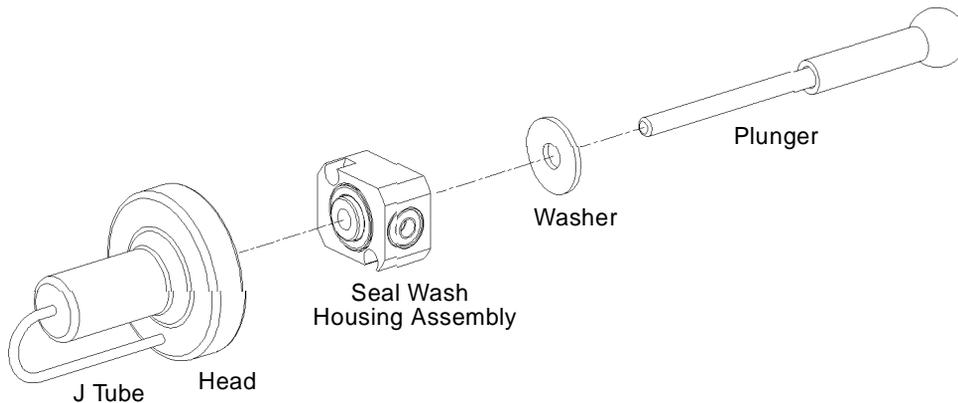

Figure 7-5 Plunger, Seal Wash, and Head
5. Remove the head, seal wash assembly, and plunger as one unit (see Figure 7-5).
7. Follow the directions on the screen to reinsert the head, seal wash housing, washer, and plunger assemblies. To avoid damaging the tube seals and to properly align the seal wash tubes with the seal wash housing, refer to steps **a** through **d** below. Also, make sure that the head alignment pin is properly oriented and that the “J” tube is facing down (see Figure 7-5).
7. Reinstall the seal wash housing assembly washer (see Figure 7-5).
8. Slide the seal wash housing with washer onto the plunger, then insert the assembly onto the head (see Figure 7-5).
9. Follow the directions in the Head Removal and Replacement screen to reinsert the head, seal wash assembly, and plunger. To avoid damaging the tube seals and to properly align the seal wash tubes with the seal wash housing, refer to steps **a** through **d** below. Also, make sure that the head alignment pin is properly oriented and that the “J” tube is facing down (see Figure 7-5).
2. Inspect the plunger for damage, excessive wear, or mobile-phase residue without separating it from the pump head and seal wash assembly (Figure 7-5). If the plunger seal has mobile-phase residue:
2. Follow the directions in the Head Removal and Replacement screen to reinsert the head, seal wash assembly, and plunger. To avoid damaging the tube seals and to properly align the seal wash tubes with the seal wash housing, refer to steps **a** through **d** below. Also, make sure that the head alignment pin is properly oriented and that the “J” tube is facing down (see Figure 7-5).